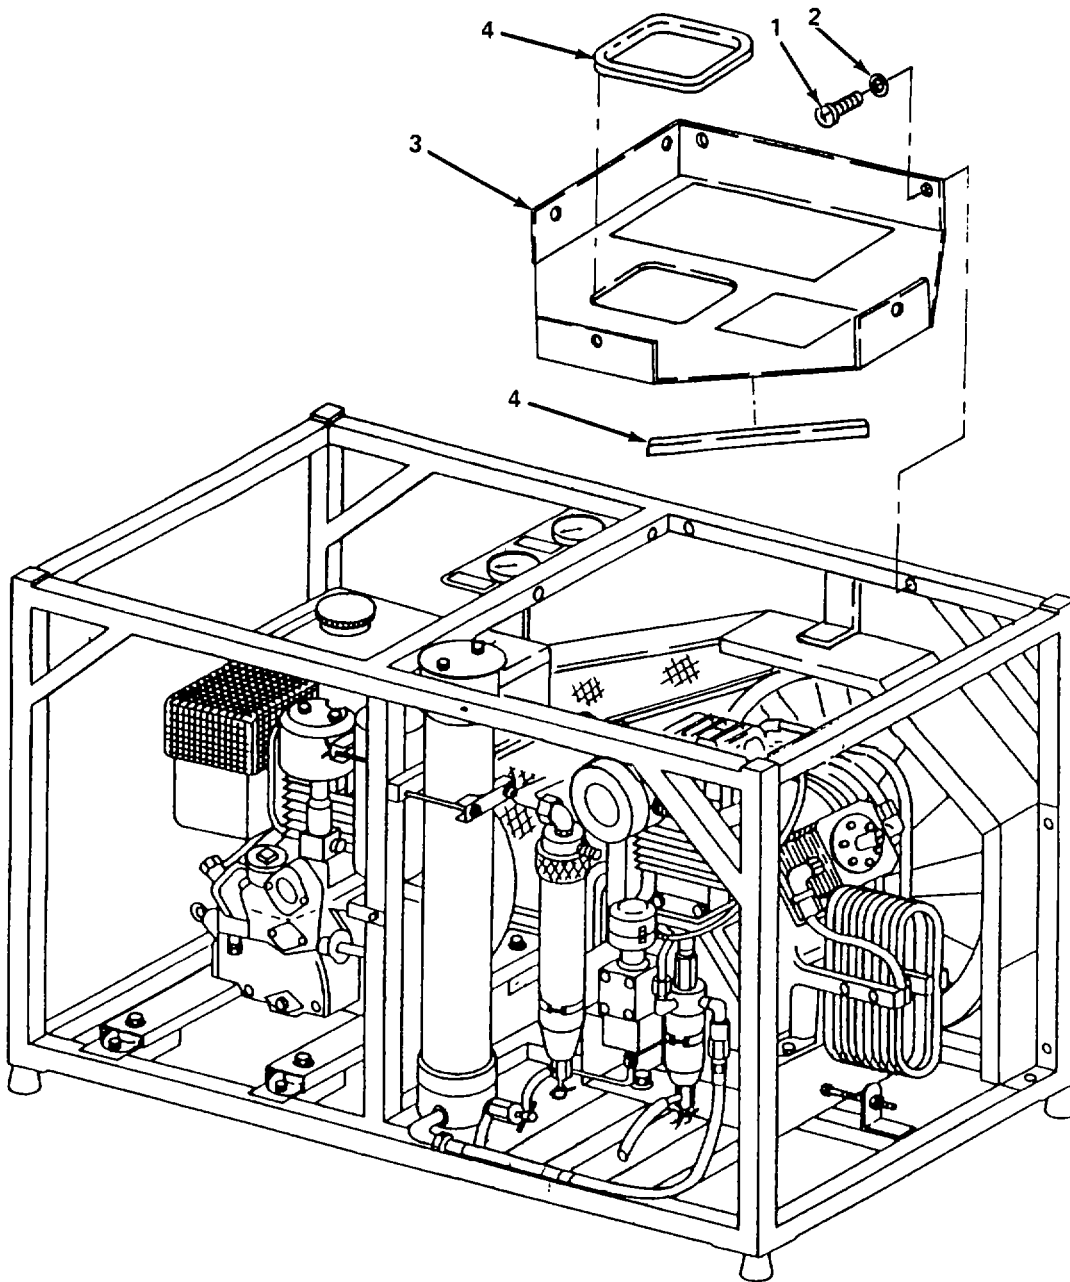

Figure 4-3. Storage Tray, Replace.
**Replace.** (figure 4-3)
- (1) Remove six bolts (1) and washers (2), and remove storage tray (3).
- (2) Remove protective edging (4) from storage tray (3).
- (3) Install protective edging (4) on new storage tray (3).
- (4) Install storage tray (3) and secure with six bolts (1) and washers (2).